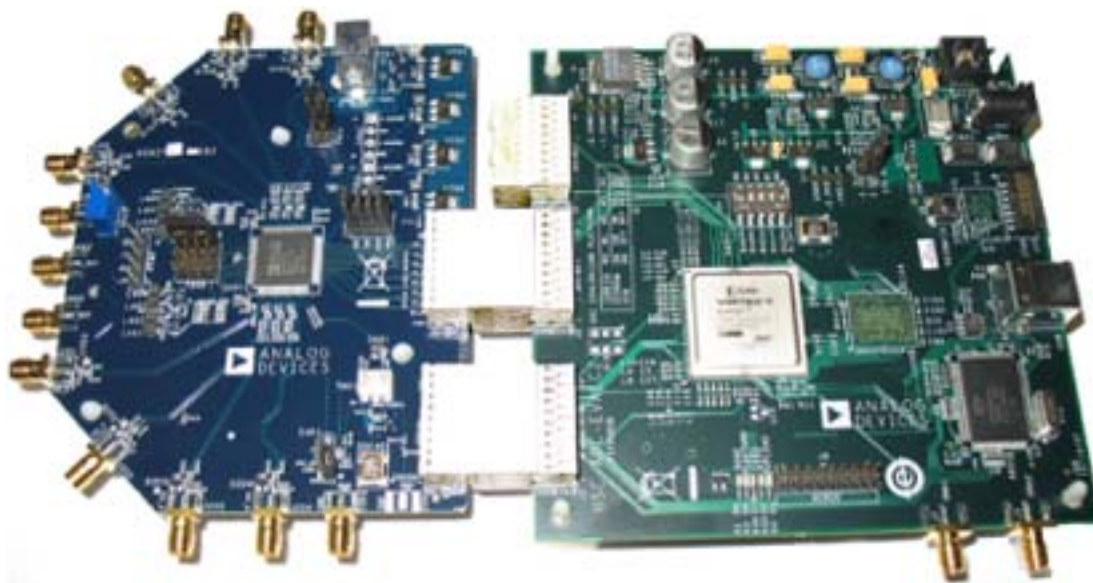

Figure 1. AD9272-65EBZ/AD9272-80KITZ/AD9273-50EBZ Evaluation Board and HSC-ADC-EVALCZ Data Capture Board
1. Connect the evaluation board to the data capture board as shown in Figure 1 and Figure 2.